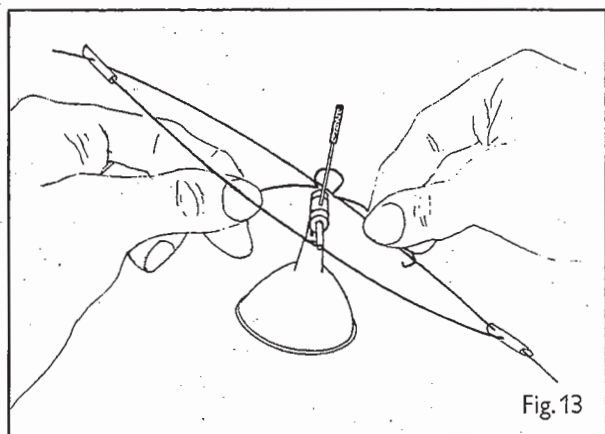
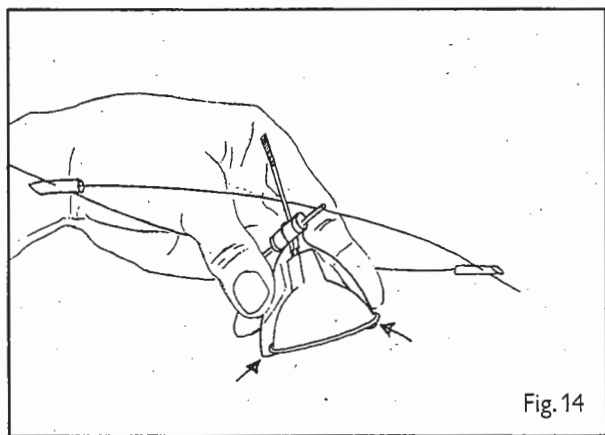

Fig. 13
Fig. 14
2. Pull the two halves of the retaining clip for the reflector gently apart and place the eye of the clip over the ceramic holder (Fig. 13). Then press the two halves of the clip down onto the reflector so that the hooks at the end of the clip firmly grasp the edges of the reflector (Fig. 14).